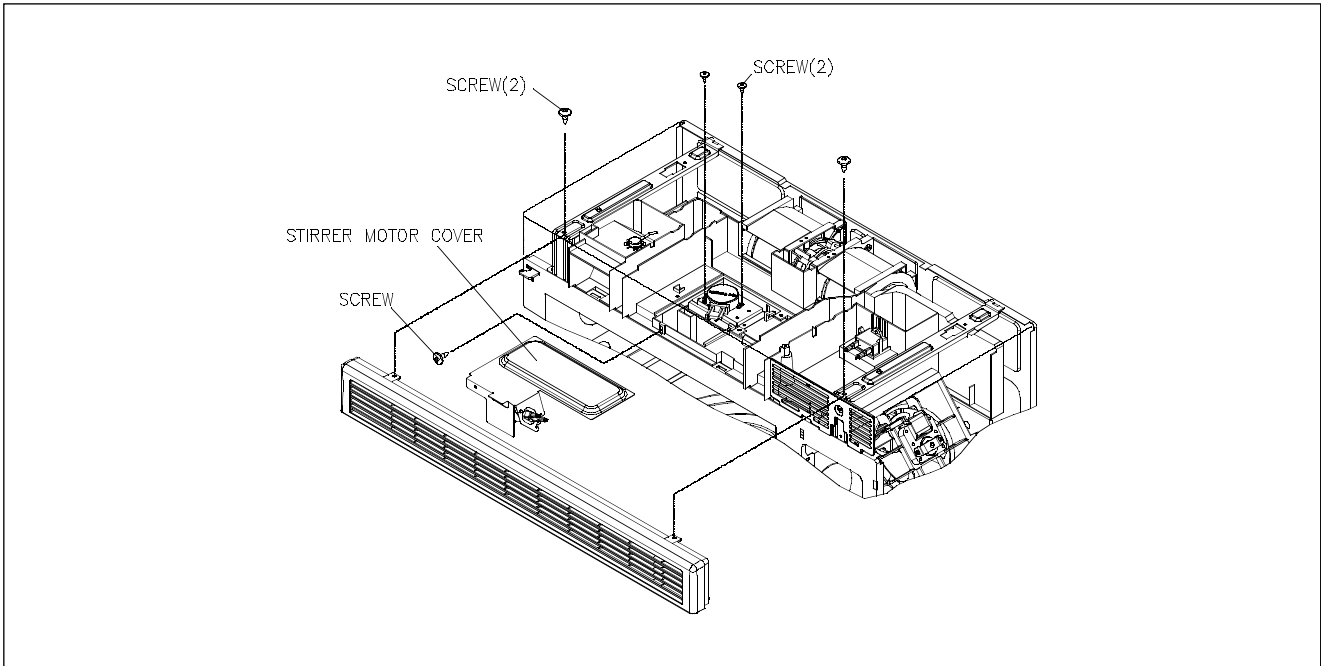

FIG. 3
1. Remove the vent grille from the microwave oven (See Cabinet Removal for this procedure). Refer to FIG. 3 and the insets for the following steps: